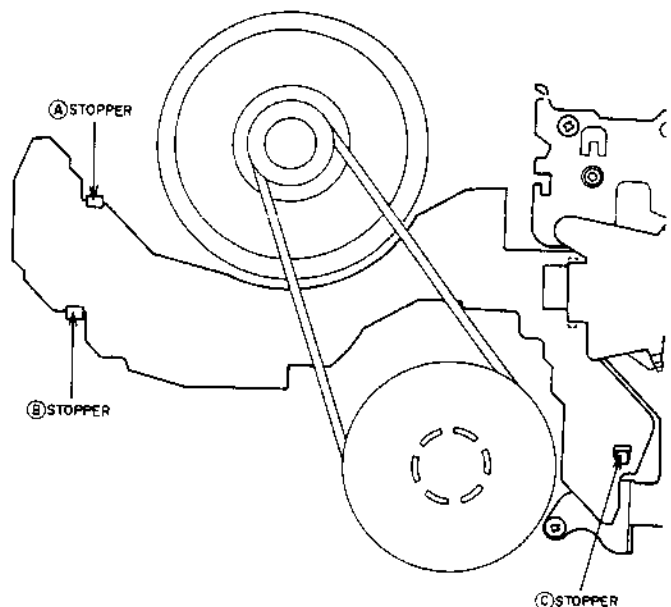

Fig. 4-6
3) Release the (A), (B), and (C) stoppers as shown in Fig.4-6. Then remove the SENSOR PCB.